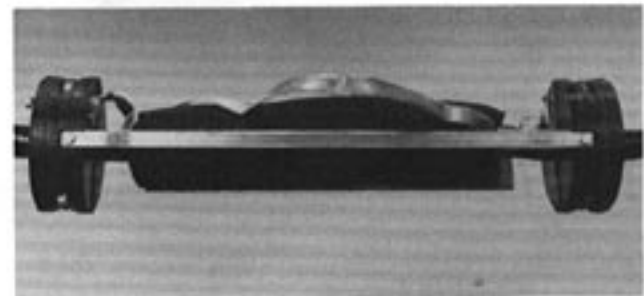

FIGURE 27 - SPACER MAT APPLICATION OVER SPLICE BUNDLE
8.10 Wrap the complete splice bundle with the open cell spacer mat supplied. This will prevent any part of the splice bundle from contacting the wall of the closure (Figure 27).